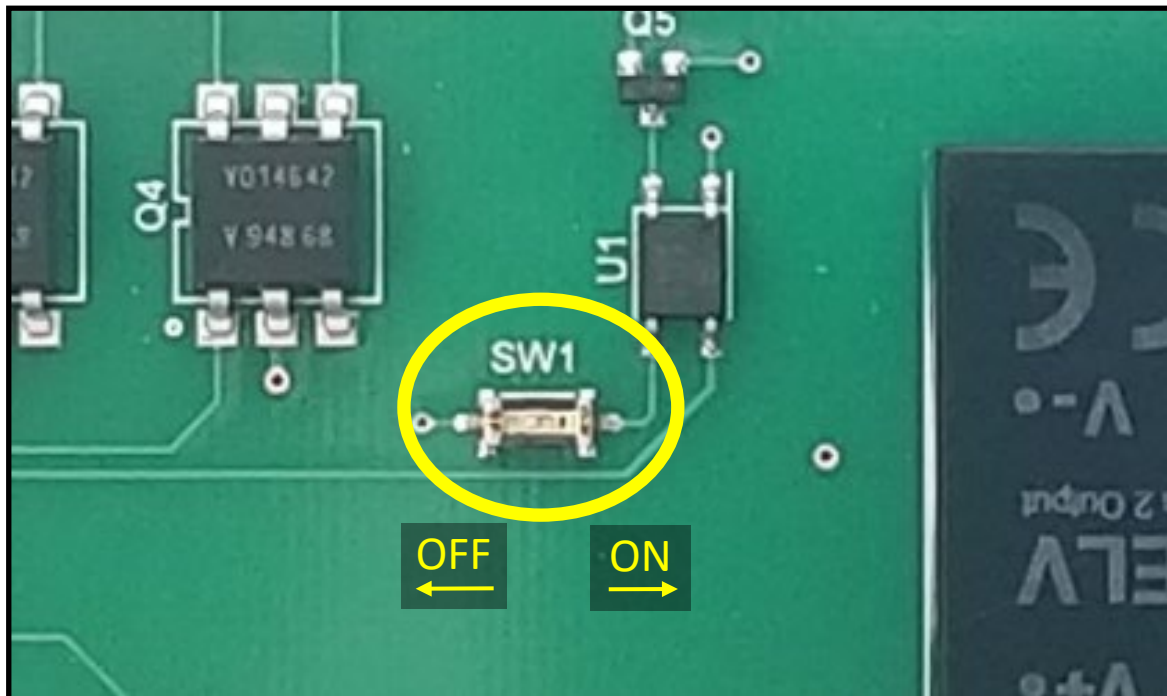

Figure 3
4. Flip the Relay Activation Switch to the “ON” position as indicated in Figure 3.
4. Flip the Relay Activation Switch to the “OFF” position as indicated in Figure3.